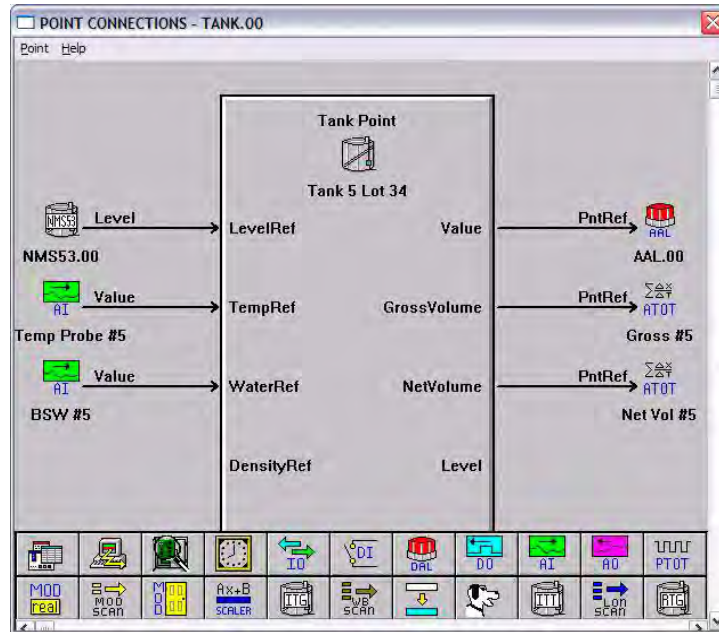

Figure 8–38: Point Connections Window
- The point icon will appear to the right or left of the selected arrow as seen Figure 8–38.